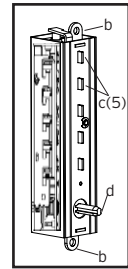

Figure 5-2
**E-2** Hold the chamber in one hand by the screw tab (b) on each end with the key-stems (c) facing you and the control shaft (d) at the bottom (See Figure 5-2).
**E-3** Using pliers or equivalent, rotate the control shaft (d) counterclockwise and release to clear the chamber (See Figure 5-2).
**(See Figure 5-2).**